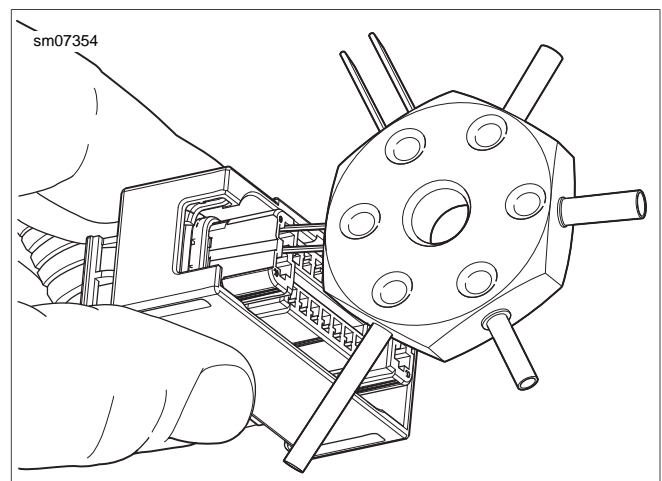

Figure A-72. Removing Large Socket Terminals: Tyco MCP Connector
3. See Figure A-72. Insert the smallest pins of the SNAP-ON TERMINAL PICK (Part No. GA500A) into the gaps on each side of the socket to compress the tangs on each side of the terminal.